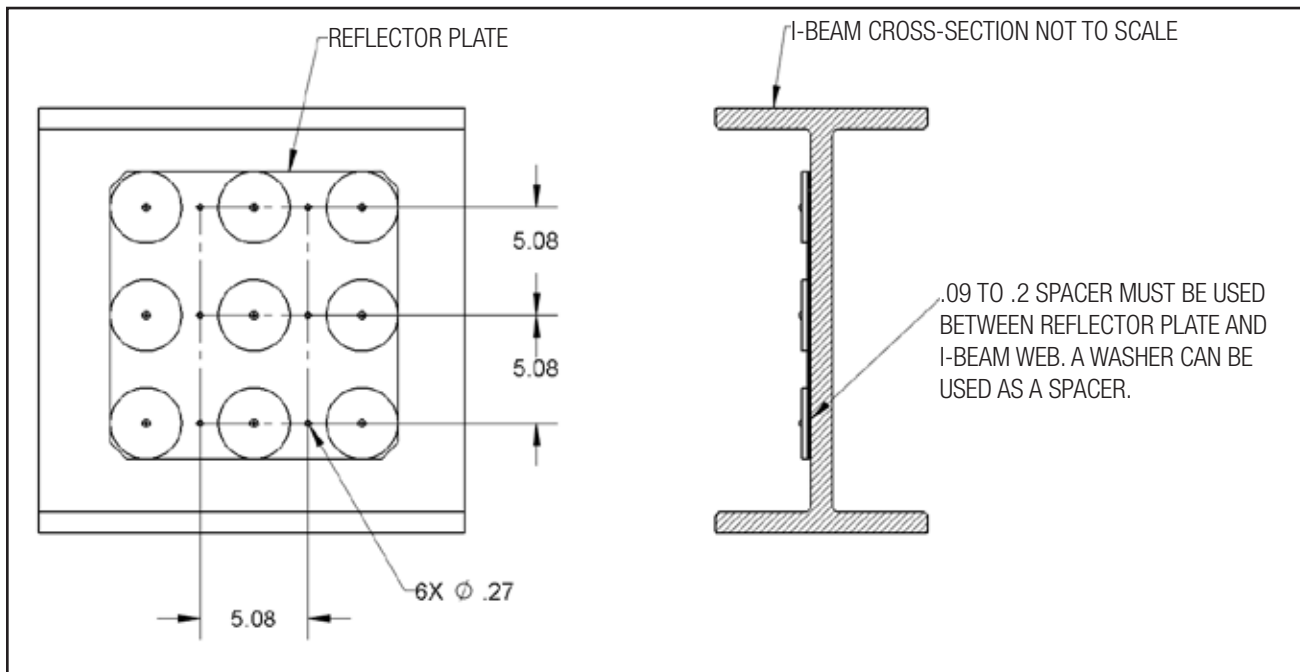

Figure 6-1 Reflector Mounting
- Reflector plate comes with 6 pre-drilled holes. See **Figure 6-1**.
1. Mount reflector to the I-Beam using appropriate hardware. See **Figure 6-1**.